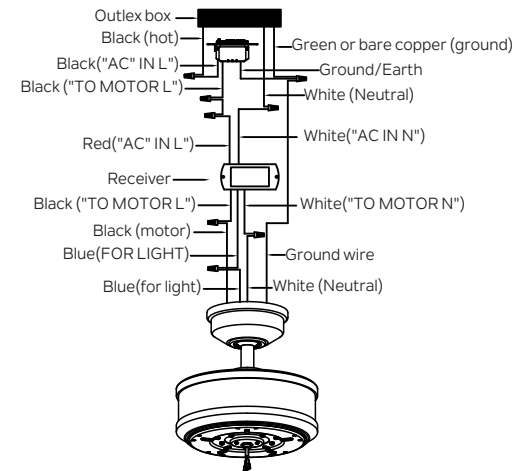

Fig. 13
Step 2. Motor to Receiver Electrical Connections: Connect the BLACK wire from the fan to BLACK wire marked "TO MOTOR L" from the receiver. Connect the WHITE wire from the fan to the WHITE wire marked "TO MOTOR N" from the receiver. Connect the BLUE wire from the fan to the BLUE wire marked "FOR LIGHT" from the receiver. Secure all the wire connections with the plastic wire nuts provided. (Fig. 13)
Step 3. Remote Receiver to Outlet Box Electrical Connections: Connect the BLACK (hot) wire from the ceiling to the BLACK wire marked "AC in L" from the wall control. Connect the WHITE (Neutral) wire from the ceiling to the WHITE wire marked "AC in N" from the receiver. Connect the BLACK (To Motor L) wire from the wall control to the RED wire marked "AC in L" from the receiver. Secure the wire connections with the plastic wire connectors provided. (Fig. 13)
Step 4. If your outlet box has a ground wire (green or bare copper) connect it to the fan ground wires : otherwise connect the fan ground wire to the mounting bracket. Secure the wire connection with a plastic nut provided. After connecting the wires, spread them apart so that the green and white wires are on one side of the outlet box and black and blue wires are on the other side. (Fig. 13)